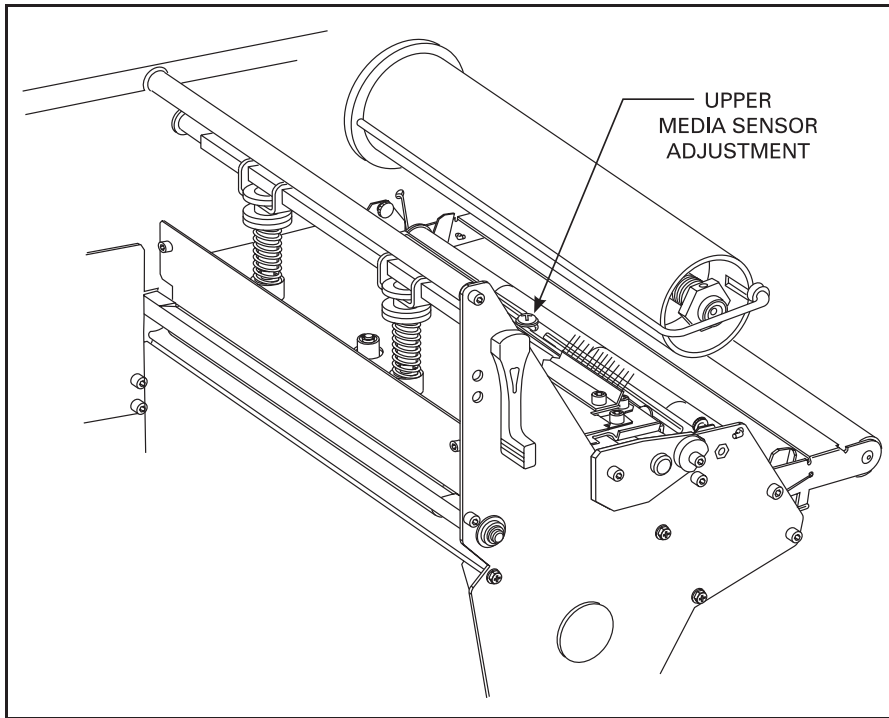

Figure 4. Upper Media Sensor Adjustment
When the *XiII* printer is powered on, it performs a self test and configures its operating characteristics. Some of these characteristics are determined by the position of the Transmissive Media Sensor. See Figure 4 on page 16. The factory-set position is sufficient for most types of media. However, if media sensor adjustments are needed, follow the procedures below.
2. Locate the Upper Media Sensor. Refer to Figure 4. The Upper Media Sensor is directly below the adjustment screw head.